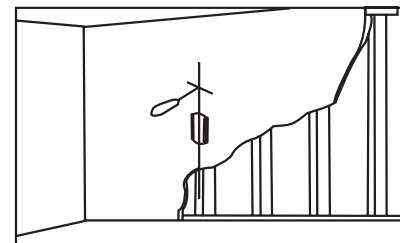

Fig 2b
Using a awl or nail to make where the nails are located, as shown as fig.2b. Distance between two nails for fixing wall mount must not less than 12". Pre-drill these holes with a 5mm drill bit to a at least 40mm in deep hole. Please make sure these holes are level and located at center. Use wall mount as a template to mark the location of other three holes and drill the same holes. Fix the wall mount to the wall with 4 long bolts(K) and washers(L).